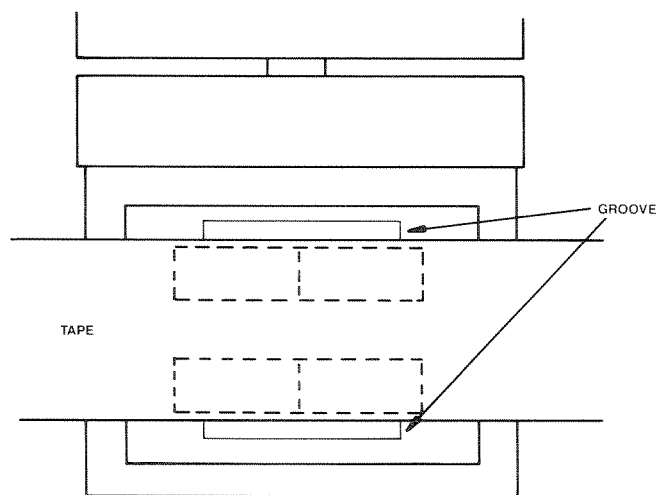
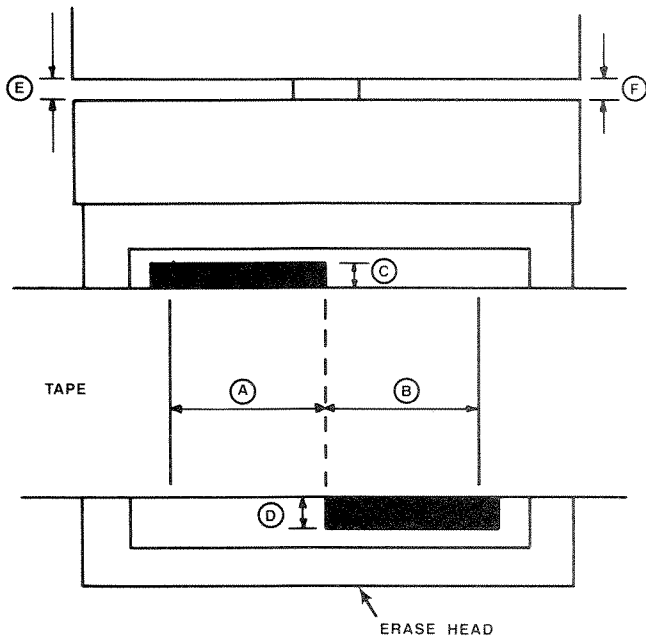

Figure 6-10. Repro or Sync Head Heights
Figure 6-11. Erase Head Adjustments
- STEP 27** Press **PLAY** and observe the head height. The tape must ride between the two grooves machined in the repro or sync head (see Figure 6-10, Repro or Sync Head Height) or equalize the distance © and © on the erase head (see Figure 6-11, Erase Head Adjustment). If it is not, repeat this procedure until both adjustment specifications have been satisfied.
Observe the tape movement across the heads. The tape should be centered between the two grooves which are machined into the surface of the head when checking the repro or sync head (see Figure 6-10). When adjusting the erase head make sure that the distance © is equal to the distance © in Figure 6-11. If adjustments are necessary refer to this procedure.